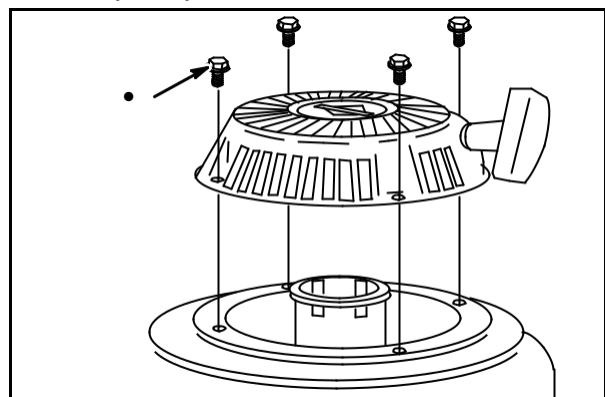

Fig. 74
Install rewind starter on blower housing and install screws (1) finger tight, **Fig. 74**.